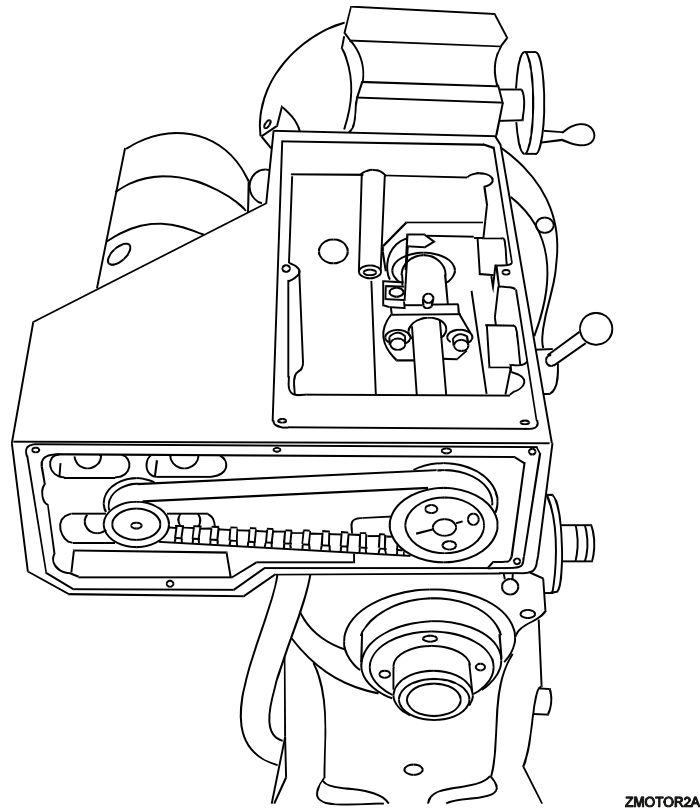

Figure 3-24, Z Axis - Bottom View
4. Refer to **Figure 3-24, Z Axis - Bottom View**. Put the motor adapter on the motor, then mount the motor to the Z-axis housing. Make sure the four holes are aligned with the tapped holes in the motor and the electrical cable connector faces to the left side of the machine. Use the four 8-mm Allen screws, lock washers, and washers to snug, but not fully tighten, the motor to the housing. Slide the pulley onto the motor shaft.